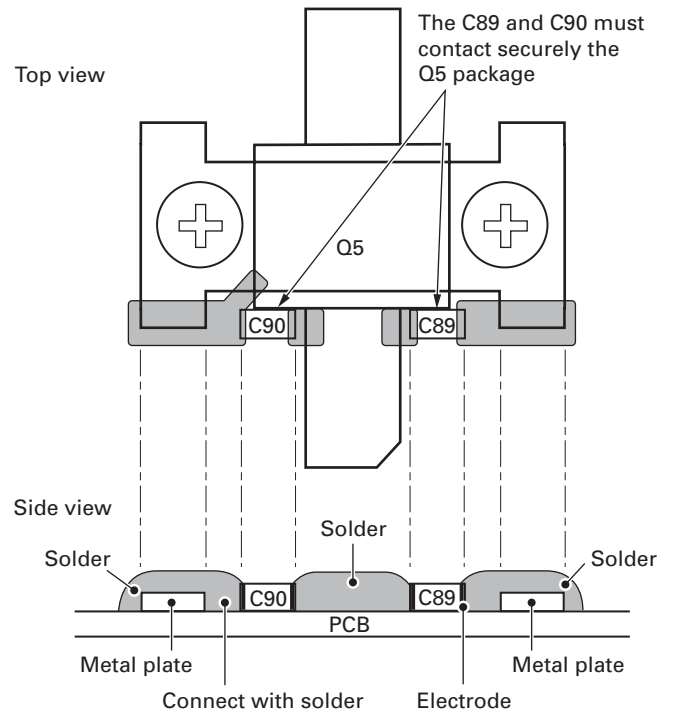

Fig. 9-3
1. Ensure to solder C89 and C90 with the earth spring legs as illustrated in Fig. 9-3.